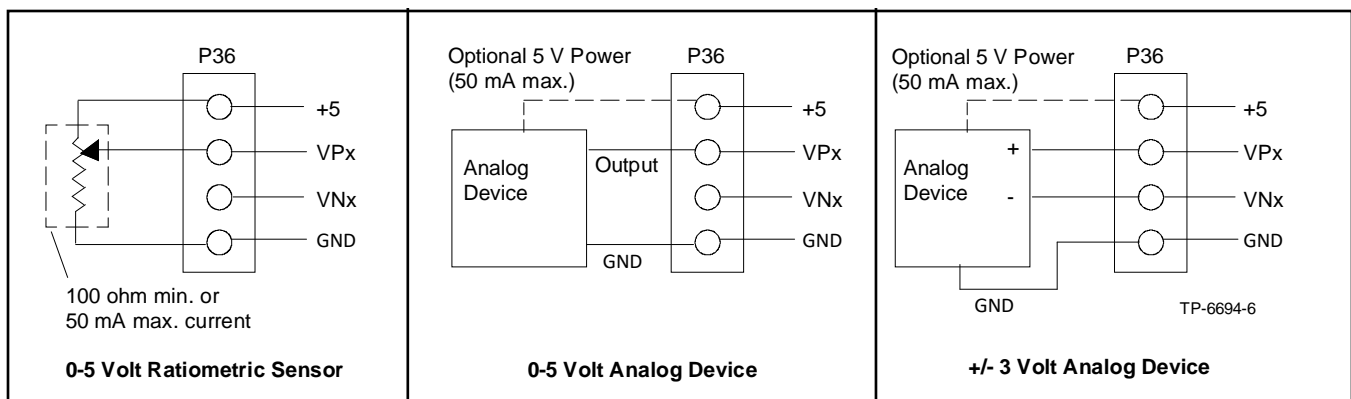

Figure 85 Dry Contact Kit Analog Input Connections P36
5. See Figure 85 for connections of analog inputs.
6. Select the normally open (NO) contacts of the relay, Form A dry contact, depending upon the application. Use a two-wire harness for the NO connections.